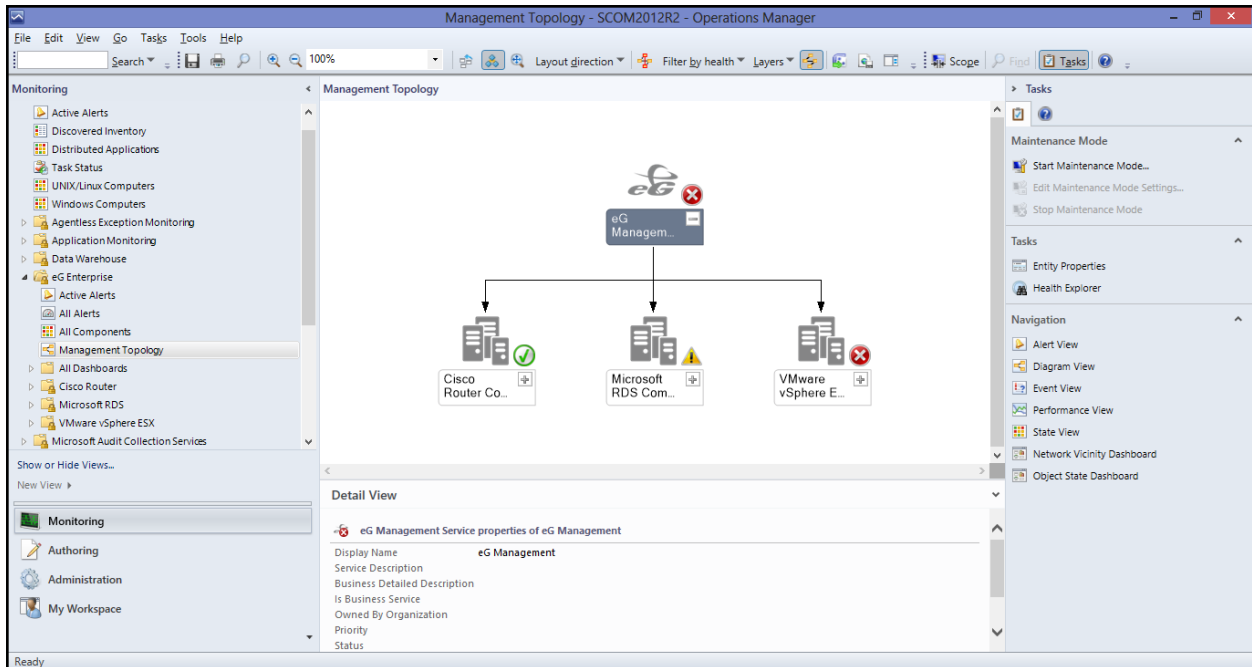
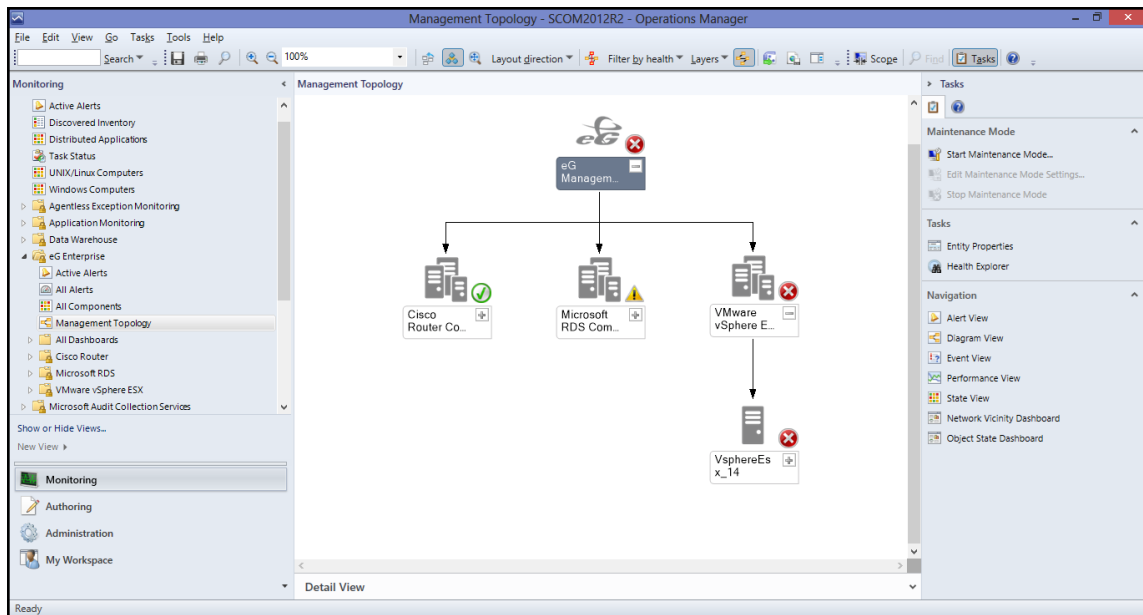
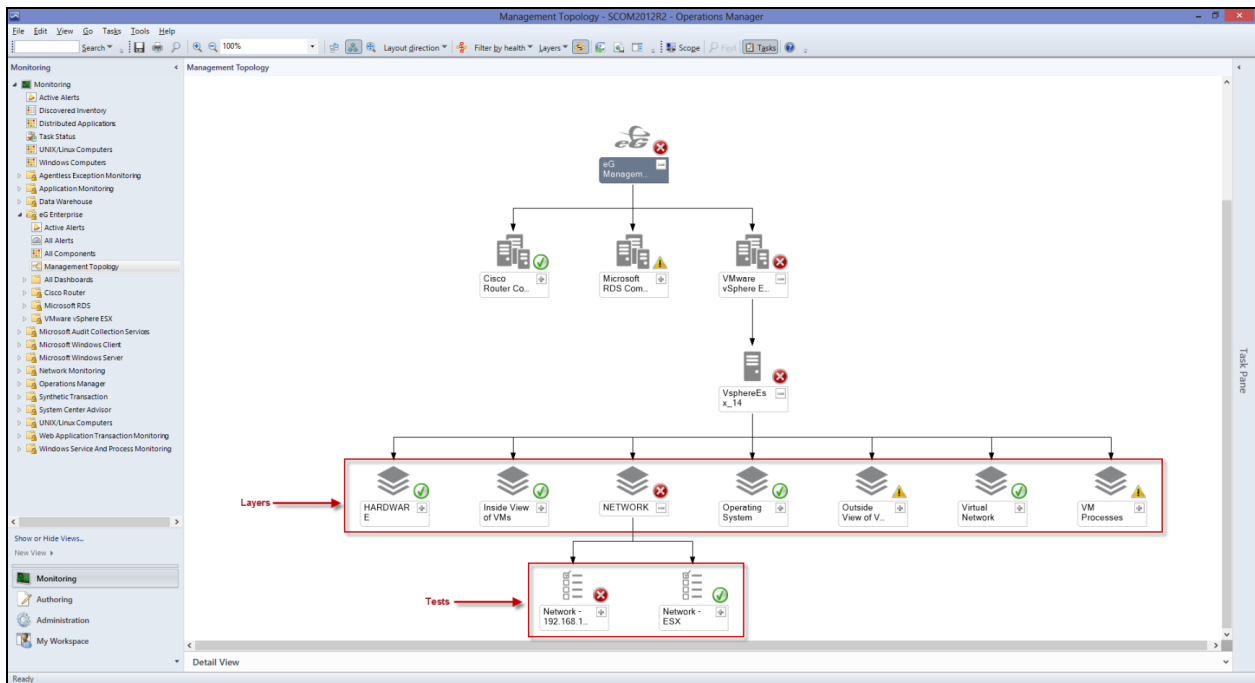

Figure 4.10: The Management Topology of the eG-managed infrastructure
Figure 4.11: Drilling down from the high-level topology view to know which VMware vSphere server is in a Critical state
Figure 4.12: Isolating the layer and test that reported the Critical issue
1. Click the **Management Topology** node below the **All Components** node (see Figure 4.10). The right panel will then display the topology representation depicted by Figure 4.10. From the
2. You can also drill-down from the high-level topology view of Figure 4.10 to identify the vSphere server that is experiencing the Critical issues and to zero-in on the precise problems that are impacting this server's performance. For this click on the '+' icon alongside *VMware vSphere ESX* in Figure 4.10. Figure 4.11 will then appear.
- Figure 4.11 reveals that the vSphere server, *VsphereEsx_14*, is the only vSphere server that is managed in the environment, and is currently in a Critical state. To identify the exact layer where the Critical issue occurred, drill down from the component view by clicking on the '+' icon alongside *VsphereEsx_14*. Figure 4.12 will then appear displaying the layers of eG's specialized layer model for VMware vSphere ESX. From the state of the layers, it is clear that Critical issues have occurred in **NETWORK** layer. If you now drill down from the **NETWORK** layer by clicking on the '+' icon alongside, you can identify the exact test that reported the Critical problem. In the case of our example, the **Network** test seems to have captured a Critical issue; this implies that a critical network-related issue is what caused the performance of the VMware vSphere server to suffer.